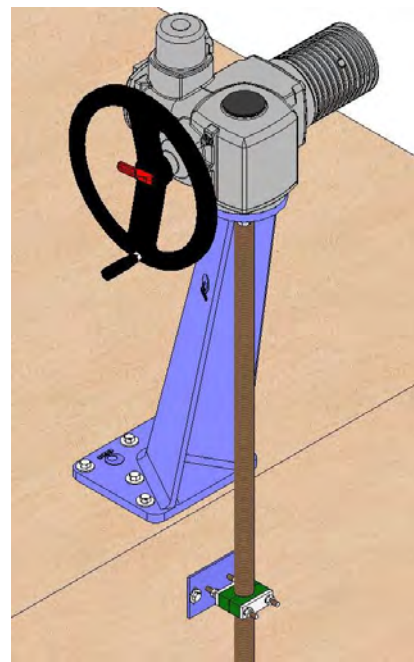

Fig. 10
- Possibility of leaning floor stand (Fig. 10).